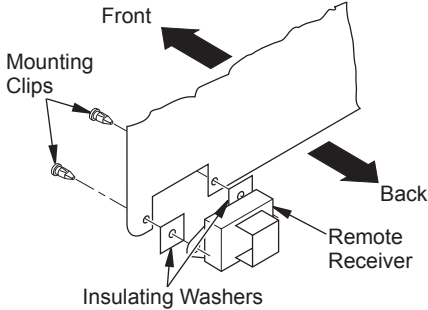

Figure 29 - Installing Remote Receiver
4. Install remote receiver unit onto gas log heater base using clips (2) and insulating washers provided.
5. Push clips firmly into place (see Figure 29).